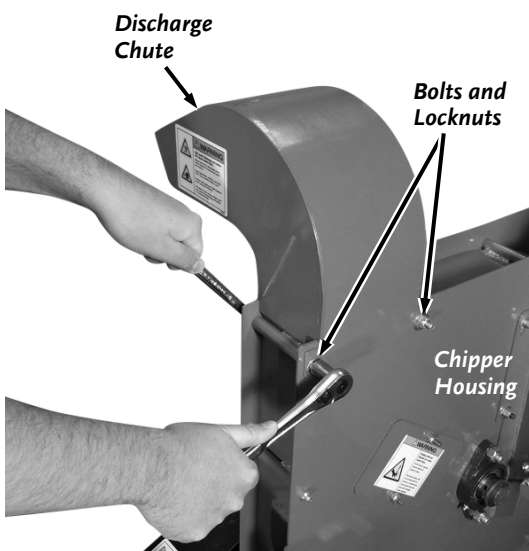

Figure 37
3. Remove the two Bolts and Locknuts that secure the Discharge Chute to the Chipper Housing with two 1/2" Wrenches and then remove the Discharge Chute (**Figure 37**).